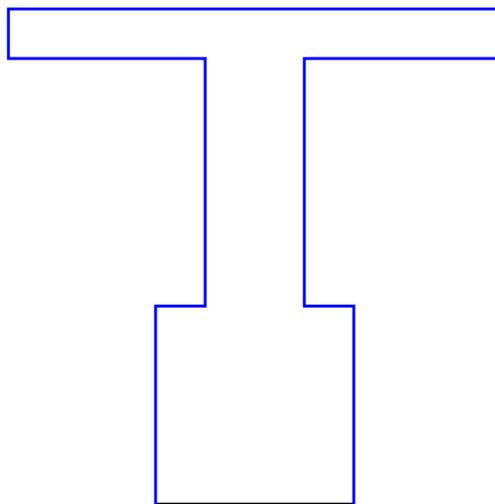

Figure 1-53 Final sketch for Tutorial 2
- d. Draw the sketch of the model using the **Line** tool, refer to Figure 1-53.
16. Choose the **Zoom to Fit** button from the **View** toolbar to fit the sketch on the screen. The completed sketch for Tutorial 2 is shown in Figure 1-53.